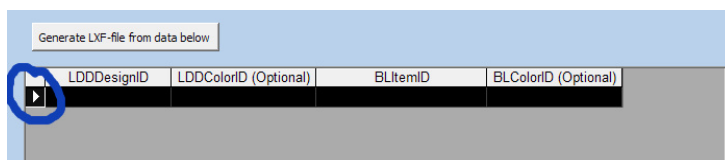

Figure 6 - Click to select entire row (turns black)
4. Click on the arrow button on the left so that the entire row is black (Figure 6)